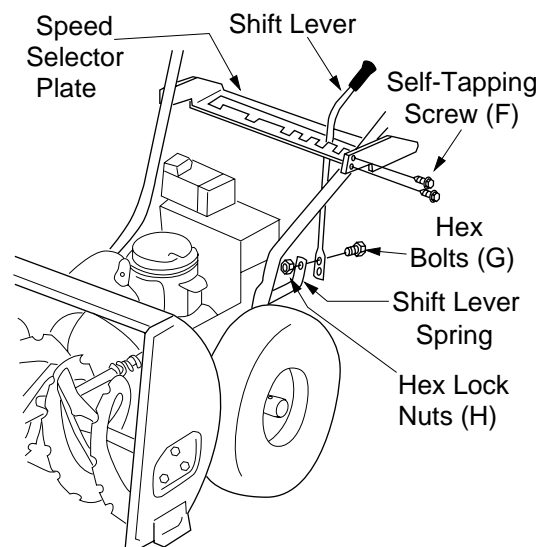

**Figure 4**
7. Attach with hex bolts lock washers and saddles. See Figure 4.